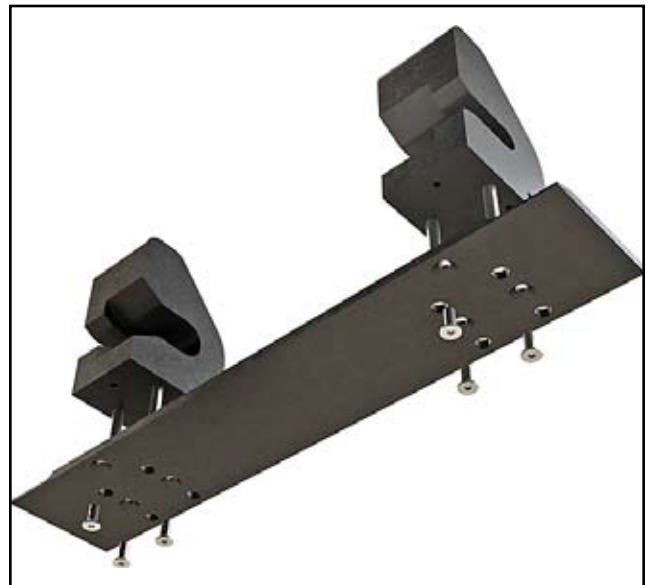

Figure 8 - Attach the Plate to the Towers
3. Fit the plate over the eight tower studs, matching the hole pattern in the plate with the hole pattern in the towers (Figure 8) Reminder: the ramp-side of the plate faces up (toward the towers) and the countersunk holes face down (away from the towers).
4. Using a 4 mm hex key and the six prepared screws, attach the plate to the towers (Figure 8). Completely tighten the screws.